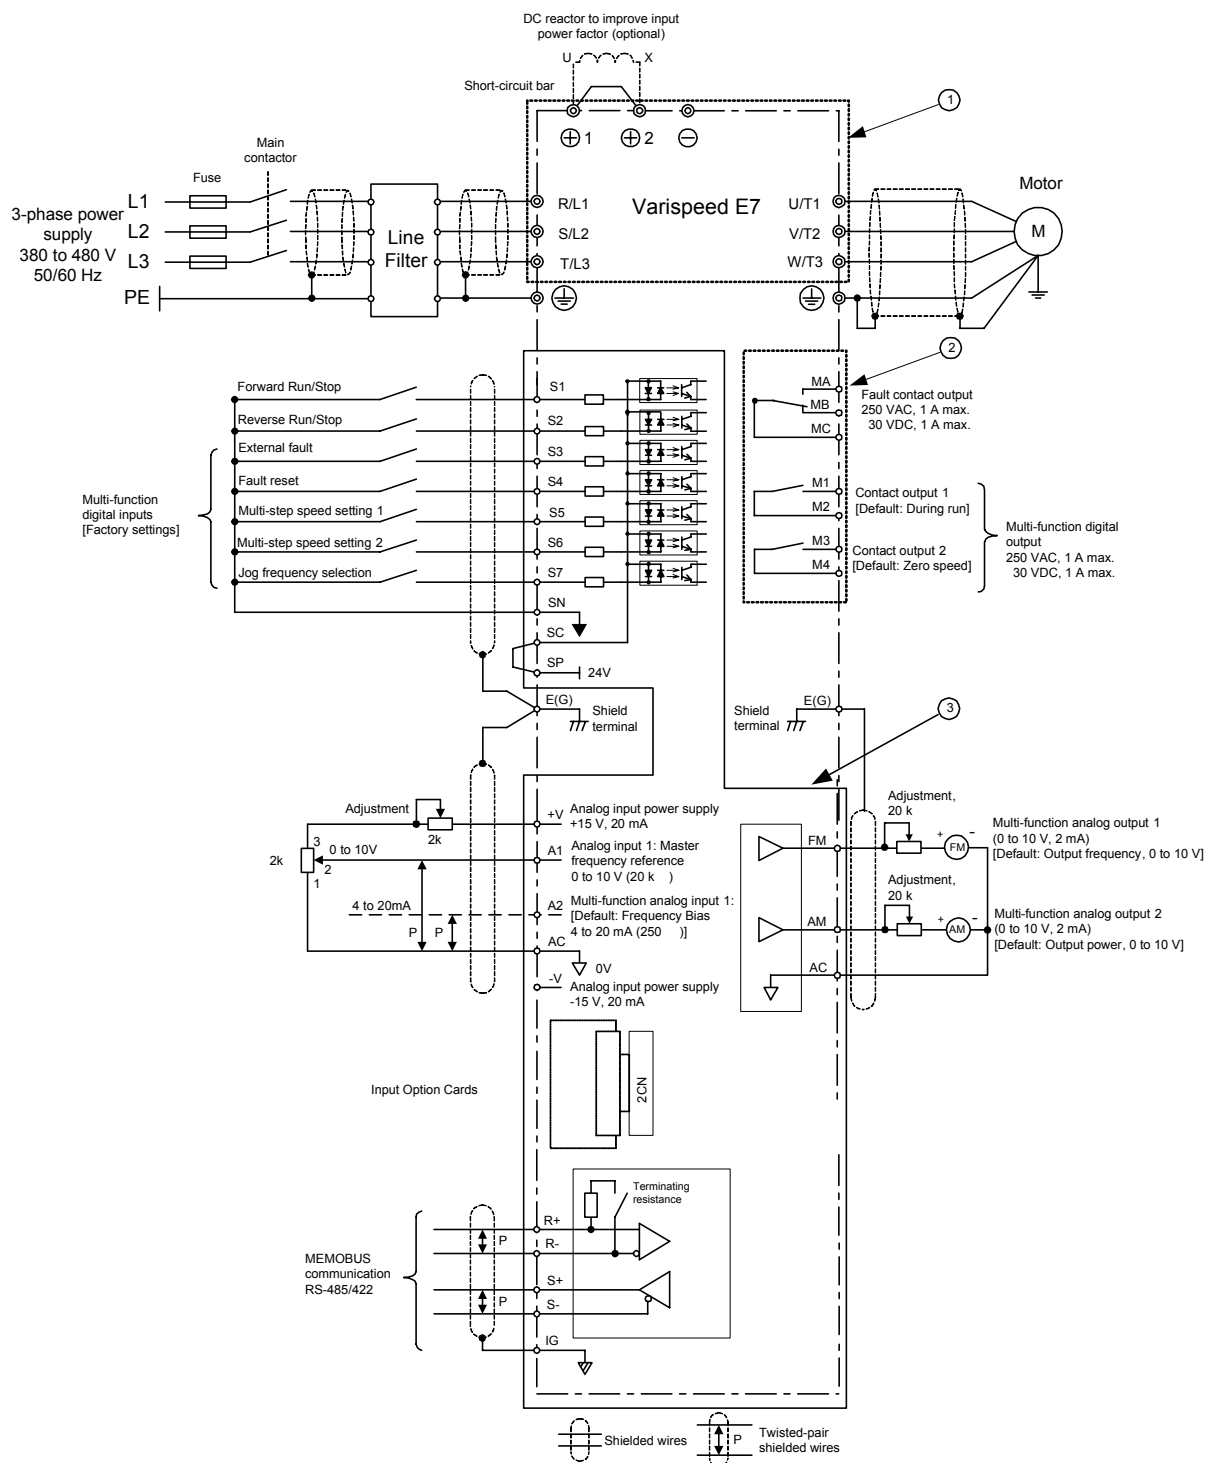

Fig 4 Wiring Diagram
- In Fig 4 the wiring of the digital inputs S1 to S7 is shown for the connection of contacts or NPN transistors (0V common and sinking mode). This is the default setting.